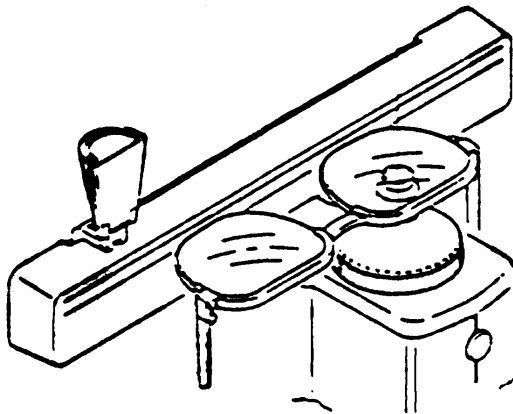

Figure 3-2. Setting the lens
3. Place the eyeglass frame on the nose slider with the top of the glasses frame facing you and the bottom of the glasses frame against the platform. This will position the glasses so that the right lens is held in your right hand and the left lens is held in your left hand (similar to holding glasses upside down). See Figure 3-2. Because the lensmeter will automatically detect the position of the slider, you do not need to “tell” the lensmeter which lens you are reading; it should indicate that you are testing the right lens.